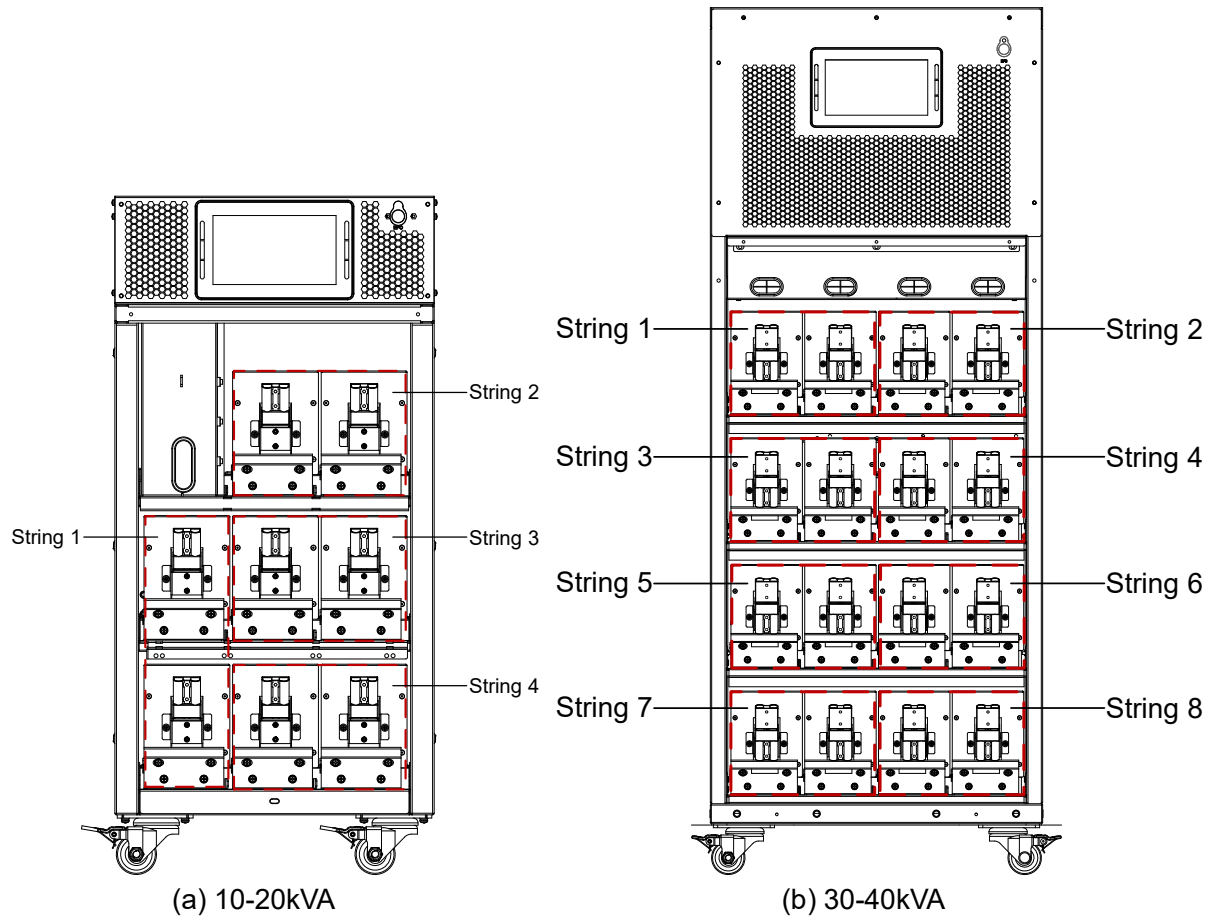

Figure 3-11 Battery Strings Diagram
- (2) Remove the plate in front of the battery shelves.
- (3) Holding the handle, install the battery strip one string at a time from the bottom and up, as shown in Figure 3-11.